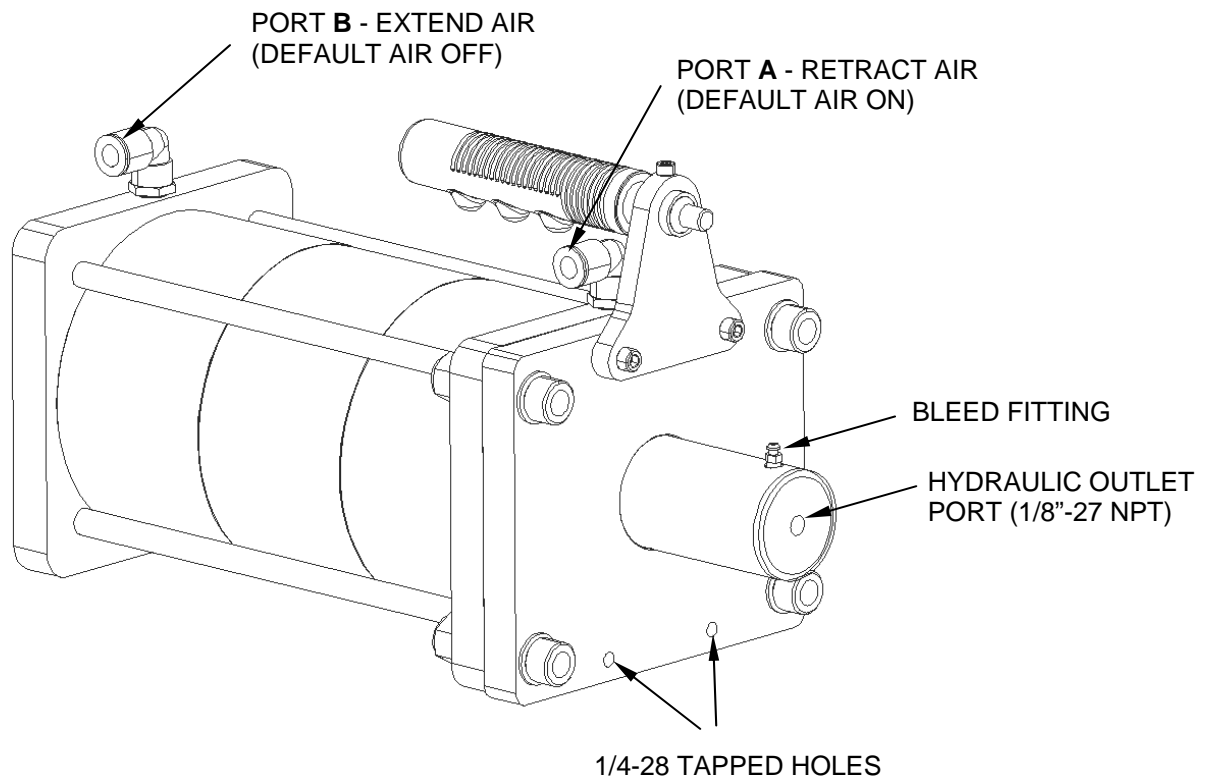
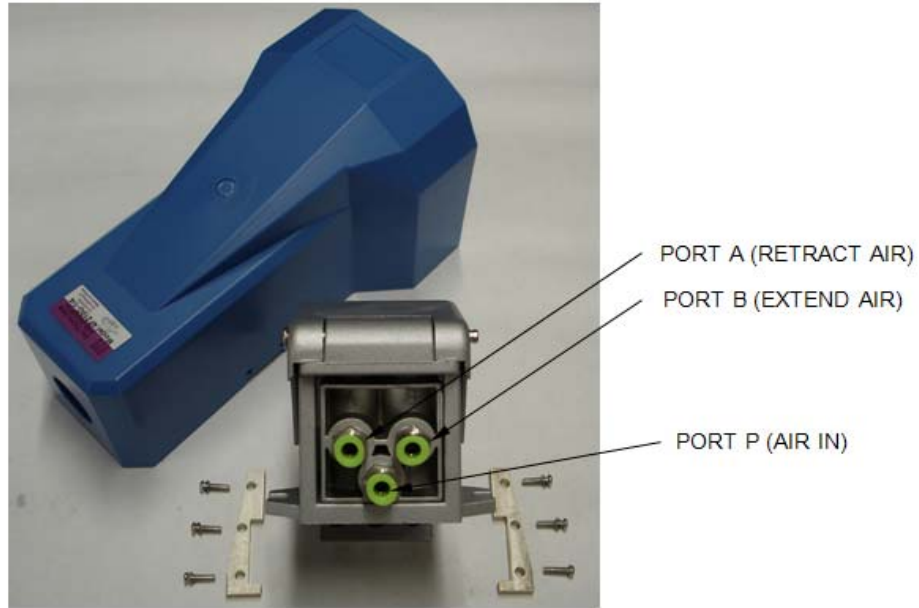

FIGURE 2
FIGURE 3 – FOOT VALVE PORTS
- 4.2 Install the 1/4" plastic air line between the foot valve and the intensifier. The tubing is pressed into the fittings with little effort. To remove the tubing, depress the collar at the end of the fitting, while pulling out the tubing. Figure 2 depicts the porting of the intensifier. Figure 3 shows a typical foot valve, and the corresponding air ports. Regardless of the valve type used, one port on the valve is used for air into the valve, and two air ports are used for air supplied to the intensifier (Ports A and B).